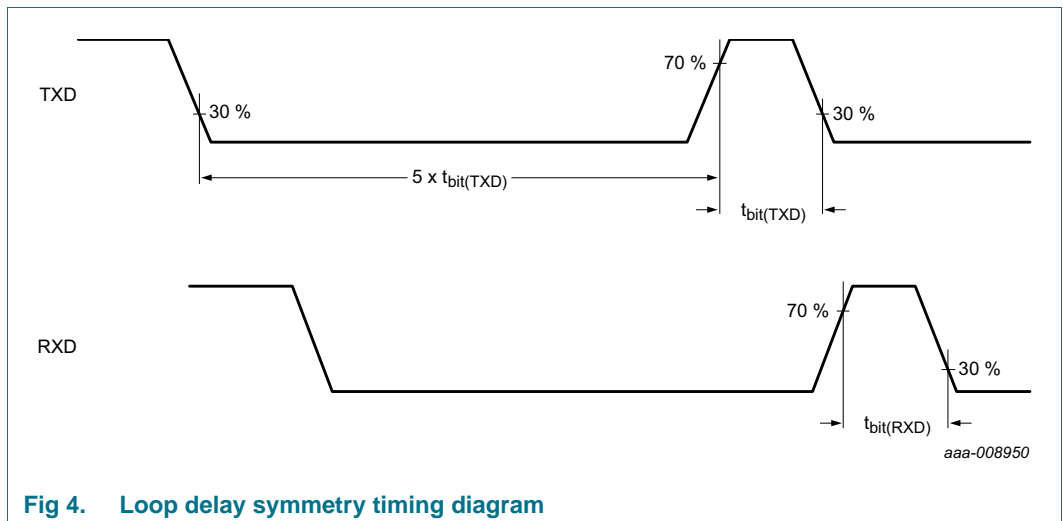

Fig 4. Loop delay symmetry timing diagram
- [3] See Figure 4.
Modifications:	<ul style="list-style-type: none"> <li>• <a href="#">Section 1</a>: text revised (1st paragraph); paragraph added</li> <li>• <a href="#">Section 2.1</a>: minor amendments to text; features added</li> <li>• <a href="#">Table 1</a>: added parameters <math>V_{IO}</math>, <math>V_{uvd(VIO)}</math> and <math>I_{IO}</math>; measurements conditions changed: <math>V_{CANH}</math>, <math>V_{CANL}</math></li> <li>• <a href="#">Figure 2</a>: pin diagrams updated</li> <li>• <a href="#">Table 3</a>: <a href="#">Table note 1</a> added</li> <li>• <a href="#">Section 7</a>, <a href="#">Section 7.1.1</a>: minor changes to text</li> <li>• <a href="#">Table 5</a>: measurements conditions changed: <math>V_x</math>, <math>V_{ESD}</math>; table note section revised</li> <li>• <a href="#">Table 7</a>: parameter values changed: <math>V_{uvd(VIO)}</math>; parameters renamed: <math>I_{O(sc)dom}</math> and <math>I_{O(sc)rec}</math></li> <li>• <a href="#">Table 8</a>: parameter <math>t_{bit(RXD)}</math> added; <a href="#">Table note 3</a> and <a href="#">Figure 4</a> added</li> <li>• <a href="#">Section 12.2 "Application hints"</a>: added</li> <li>• <a href="#">Figure 7</a> moved to <a href="#">Section 13</a></li> <li>• <a href="#">Section 13.1</a>: text updated</li> <li>• <a href="#">Section 19.3</a>: 'Translations' disclaimer added</li> </ul>